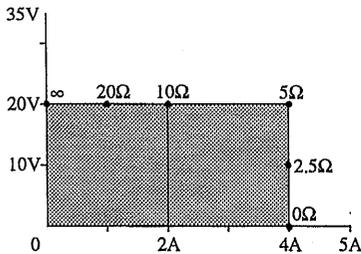

Fig. 2-5 Constant voltage (CV) operation
As an example, we assume that PAN35-10A is used to apply 20 V to a 10 Ω load under constant voltage (CV) operation. Fig. 2-5 shows operation under this condition.